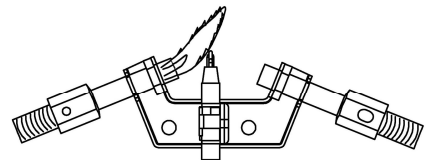

Figure 19 – Correct Pilot Flame Pattern
2. Inspect pilot flame and refer to Figure 19 and 20.
- Figure 19 shows a correct pilot flame pattern.